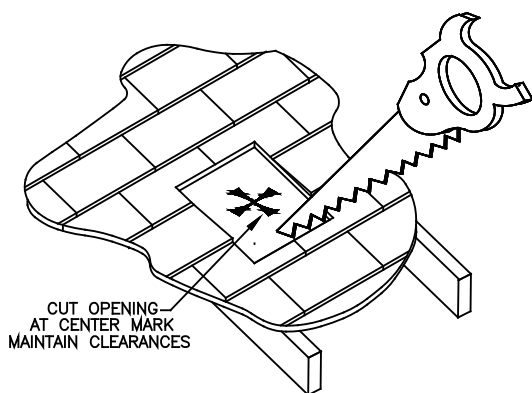

Figure 29
5. Remove shingles or other roof covering as necessary to cut the rectangular hole for the Support Box. Cut the hole 1/8-inch larger than the dimensions of the Support Box (**Figure 29**). The rectangular hole should be centered on the small hole which you drilled through the ceiling to mark the location. Again, verify that you are not cutting through rafters or framing